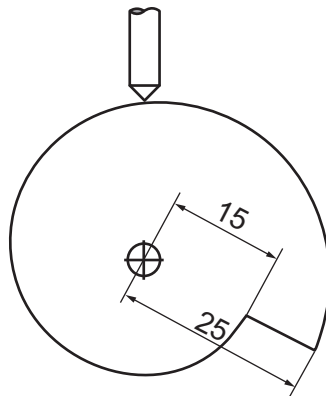

Fig. 11.2
(b) Fig. 11.2 shows a cam profile and follower.
- (ii) Mark the direction of rotation of the cam on Fig. 11.2. [1]
- (iii) Give the vertical distance that the follower is lifted in each revolution of the cam in Fig. 11.2.